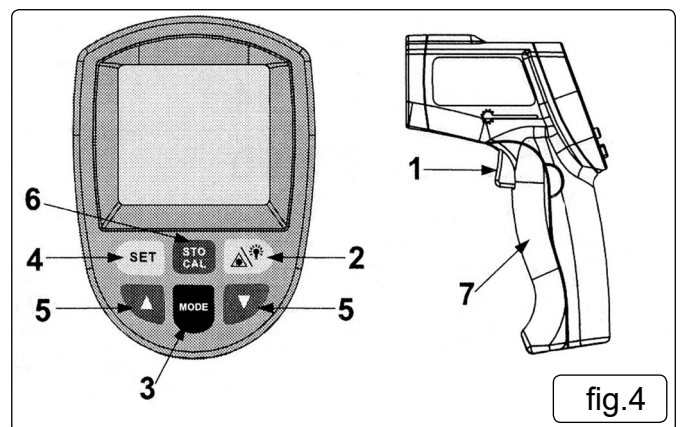

fig.4
4.3. BUTTONS AND CONTROLS (FIG.4)